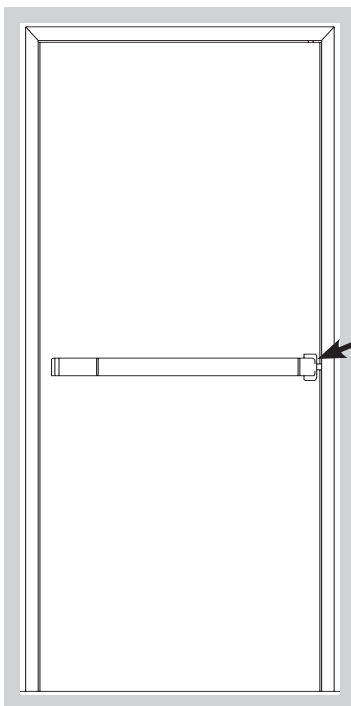

Fig. 17
- 3 Drill and tap through frame and reinforcement for closer shoe attachment (Fig. 17).
- 3 Drill and tap through frame and reinforcement for hardware attachment (Fig. 17).